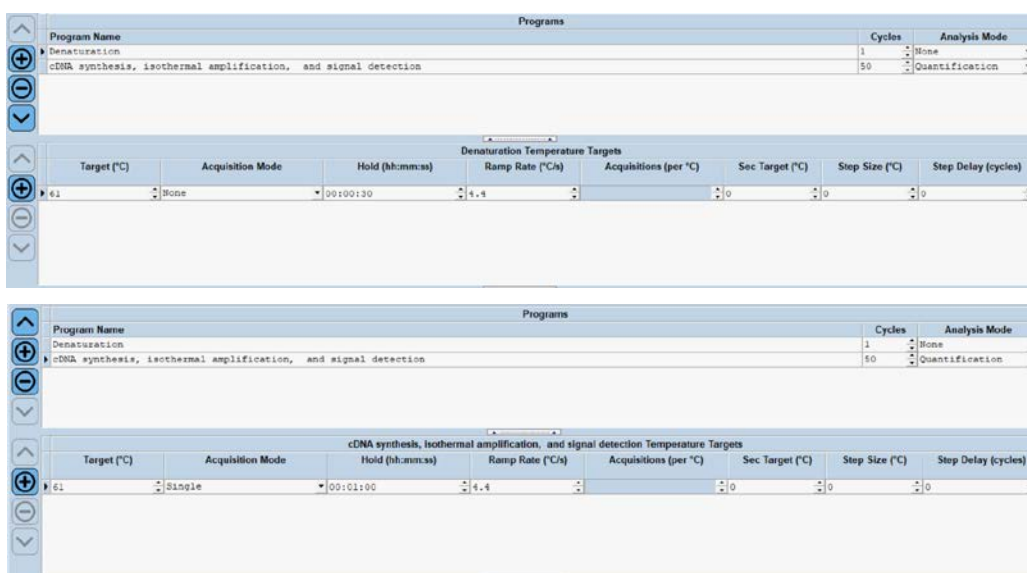

Figure 5. Program set-up using LightCycler 480 Software Release 1.5.0.
3. Setup program according to the following Table 2 and Figure 5.